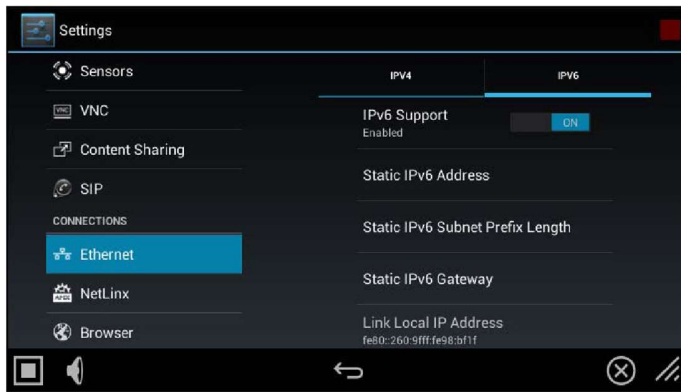

FIG. 58 Ethernet page - IPv6 tab (IPv6 support enabled)
2. Toggle the **IPv6 Support** option ON. Note that this enables the other fields for editing (FIG. 58):